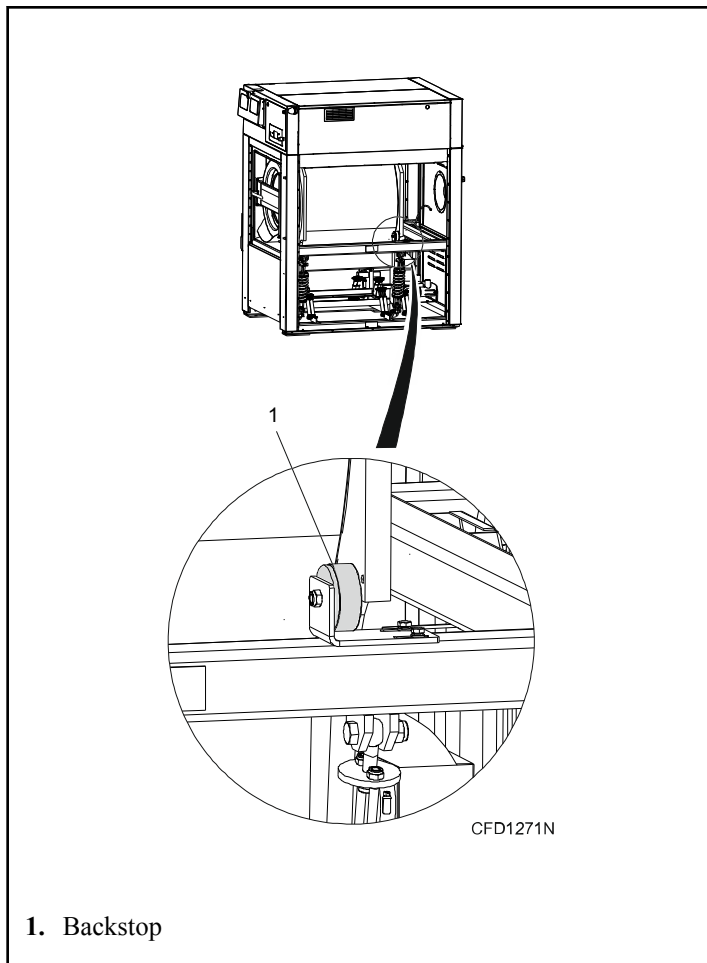

Figure 31
1. Place two backstops (supplied with the machine) in their places, refer to *Figure 31*.